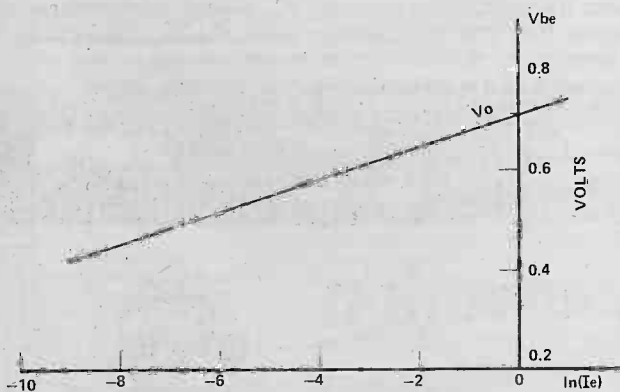

Fig. 1. As the  $I_E$ ,  $V_{BE}$  relationship is exponential, and graph of  $\ln I_E$  against  $V_{BE}$  is a straight line.
Whatever circuit configuration is used, common emitter, common base, common collector (emitter follower), the fact does not alter that there is a certain relationship between the base-emitter voltage  $V_{BE}$  and the emitter current  $I_E$ . This relationship is exponential, and, because of this, a plot of  $\ln I_E$  against  $V_{BE}$  is a straight line as in fig. 1.
**Fig. 1.** The tape input circuitry of the System 8000 tuner amplifier. Note that each input has its own preamplifier and this gives the system greater flexibility than if the usual mixing had been employed.